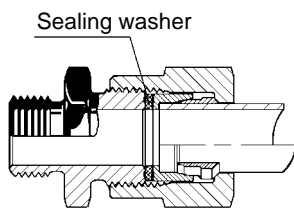

Fig. 4
- The screwed connection at the pressure port should be as straight as possible (butt joint - see Fig. 4).